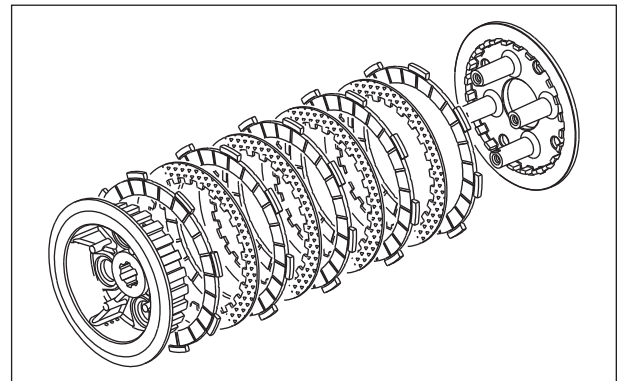

Fig. 3.14
- Separate the hub clutch, plate clutch driven (5 nos.), plate clutch drive (4 nos.) and disc clutch pressure. (Fig. 3.14)